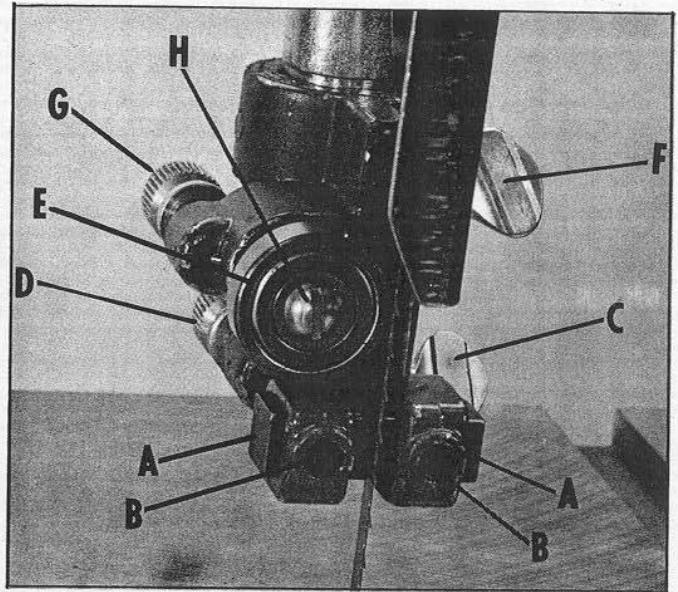

Fig. 17
1. The upper blade guides (A) Fig. 17, are held in place by means of the set screws (B). Loosen the set screws (B) to move the guides (A) as close as possible to the side of the blade, being careful not to pinch the blade. Then tighten the screws (B).
2. The guides (A) Fig. 17, should then be adjusted so that the front edge of the guides are just behind the "gullets" of the saw teeth. The complete guide block bracket can be moved in or out by loosening thumb screw (C) and turning knurled knob (D) Fig. 17. When guides (A) are set properly, tighten thumb screw (C).
3. The upper blade support bearing (E) Fig. 17, prevents the blade from being pushed too far to the back which could damage the set in the saw teeth. The support bearing (E) should be set  $1/64''$  behind the blade by loosening thumb screw (F) and turning knurled knob (G) to move the support bearing (E) in or out.
4. The blade support bearing (E) should also be adjusted so the back edge of the blade overlaps the outside diameter of the ball bearing by about  $1/16''$ . The bearing (E) is set on an eccentric and to change position remove screw (H) and bearing (E) Fig. 17. Loosen thumb screw (F), back out screw (G) and re-position shaft that bearing (E) is attached to.